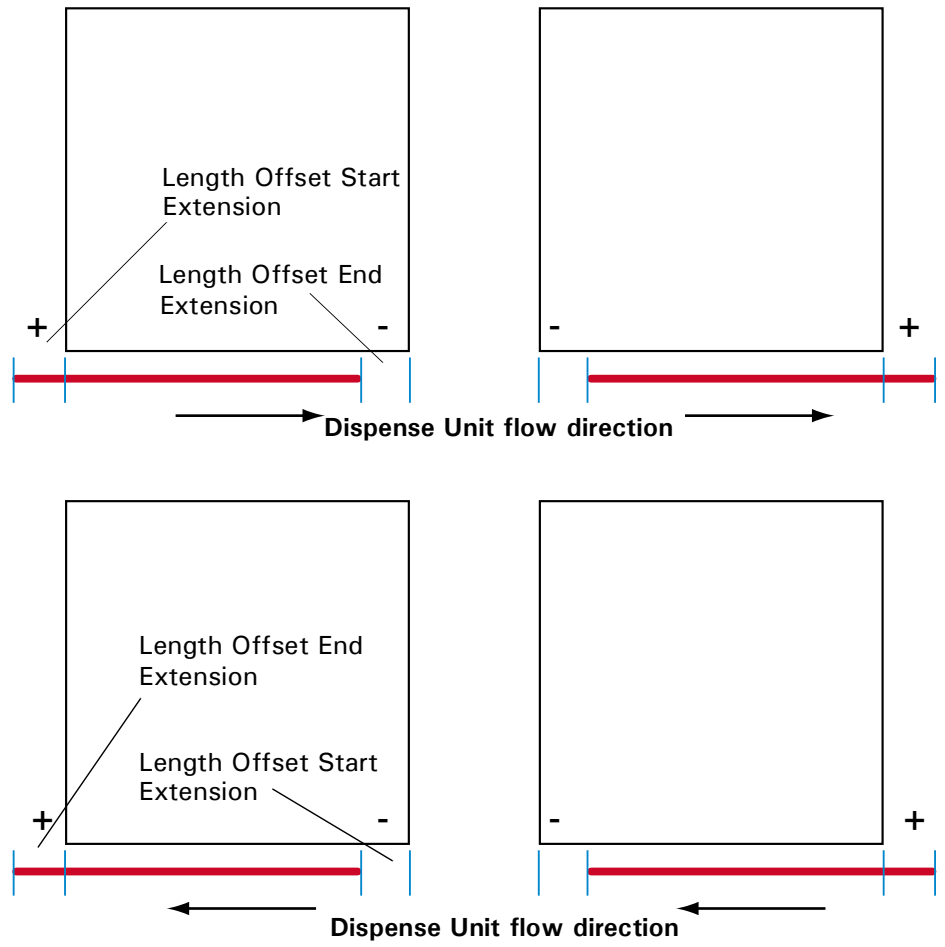

Figure 14-5
2. Select the **Length Offset Start** field on the Chipline command line. Enter a positive or negative offset start value. Refer to Figure 14-5 to determine if you require a positive or negative extension. This is determined by the dispensing direction of the dispense unit.
3. Select the **Length Offset End** field on the Chipline command line. Enter a positive or negative offset end value. Refer to Figure 14-5 to determine if you require a positive or negative extension. This is determined by the dispensing direction of the dispense unit.